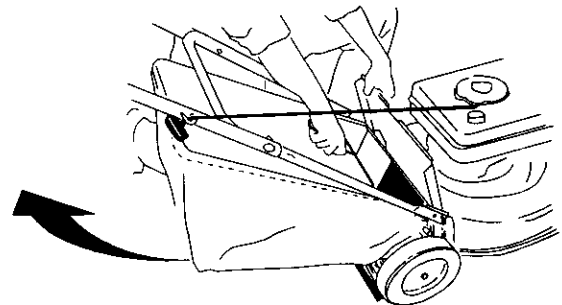

Figure 14
- Lift discharge door and pull grass bag up and away from the mower to dispose of the grass clippings. See Figure 14.